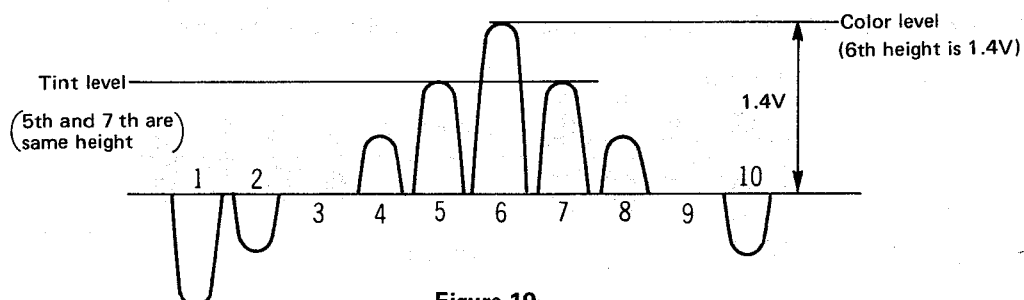

Figure 19
4. Adjust Sub-Tint control to achieve the waveform as shown in figure 19.
2. Align Sub-Color control to achieve the wave voltage 1.4V as shown in figure 19.